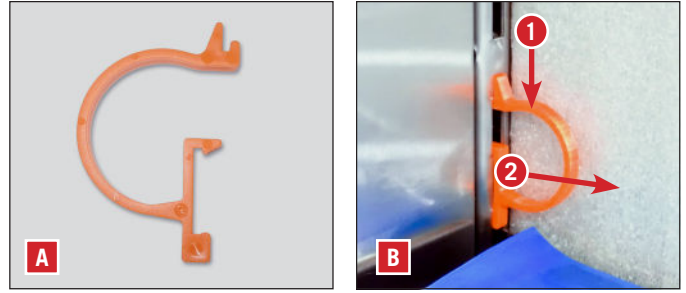

FIG. 3. Remove the shelf shipping clip (A) from the shelf standard (B).
1. Remove the shelf shipping clips. See fig. 3.